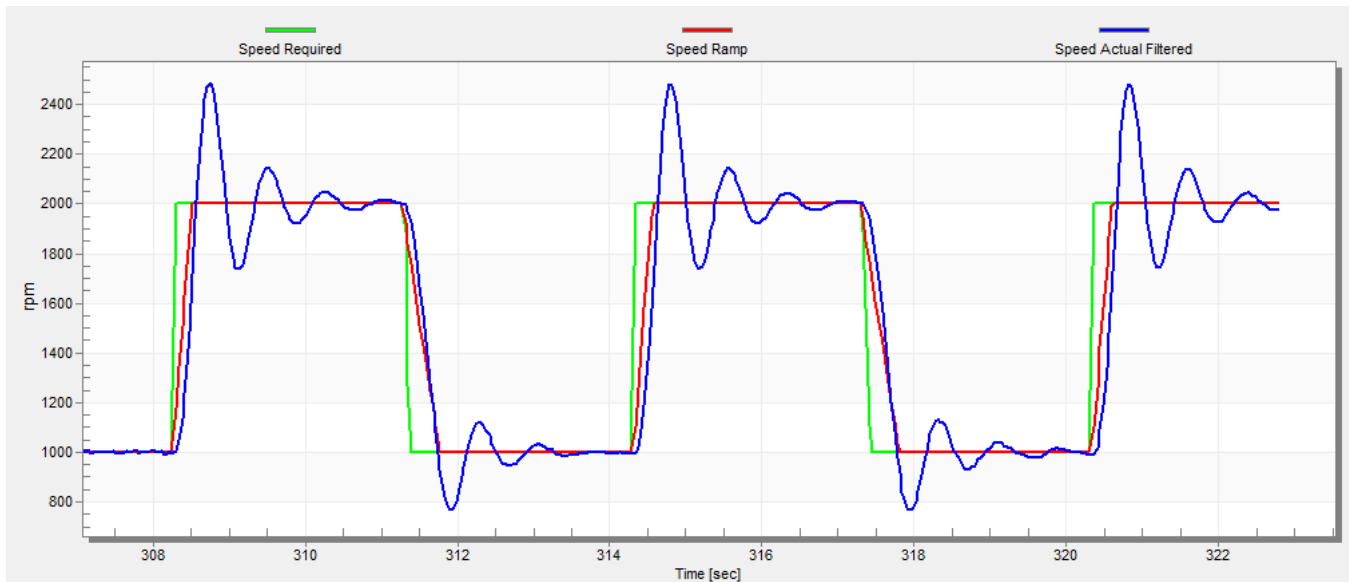

Figure 33. Speed Controller Response—SL_Kp value is low, Speed Actual Filtered greatly overshoots
- The “SL_Kp” value is low, the “Speed Actual Filtered” greatly overshoots, and the long settling time is unwanted (see Figure 33).